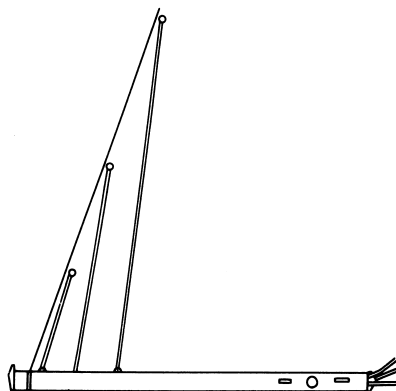

Fig. 21
Three (3) reef lines are rigged onto the boom. The aftermost line is the first reef line (see Fig. 21). Reeve it through the first reef cringle on the leech and secure it to the eye on the top of the boom on the opposite side by a bowline.